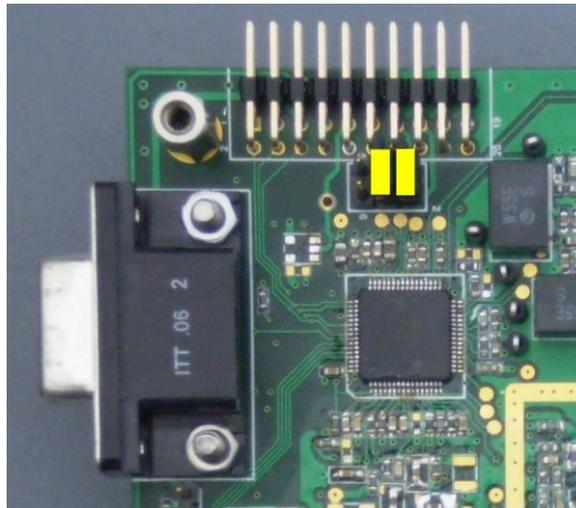

Figure 11 J4 Links 1-2 and 3-4 for RS232 Operation
- Set the J4 links on DE70321 to RS232 operation (3-4 and 1-2 connected, no jumper across 5-6, see *Figure 11*).